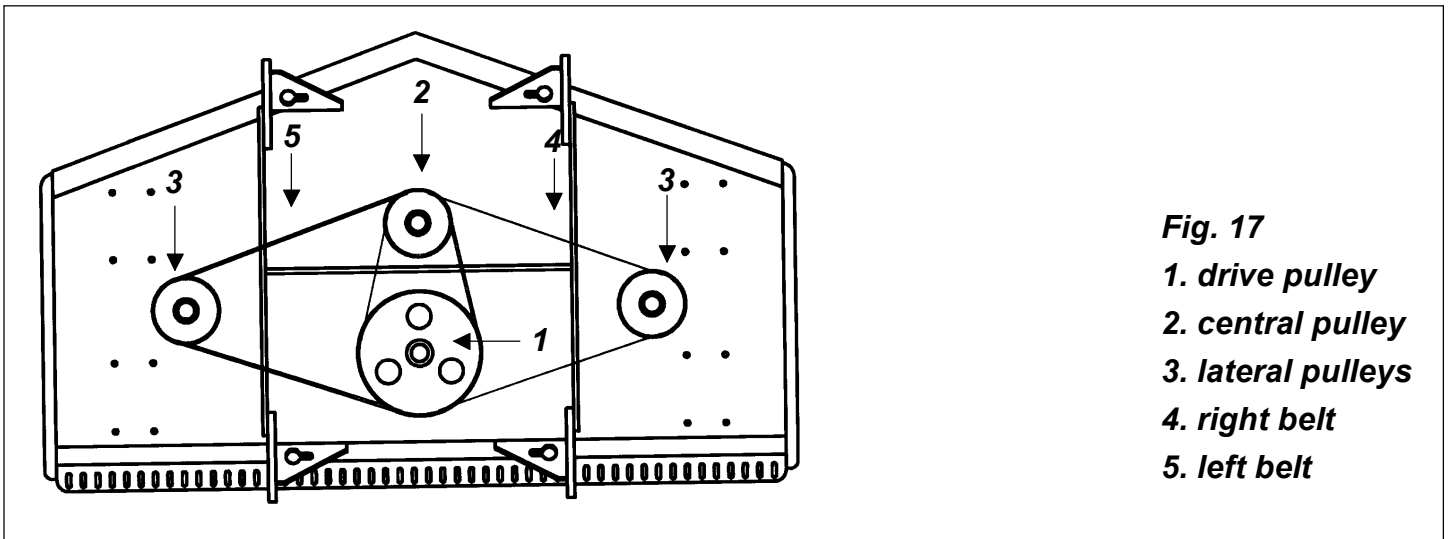

Fig. 17
8. Replace new belts (**see fig. 17**). Loop the first belt over the left spindle and around the lower groove of the center spindle pulley and the lower groove of the gearbox drive pulley. The second